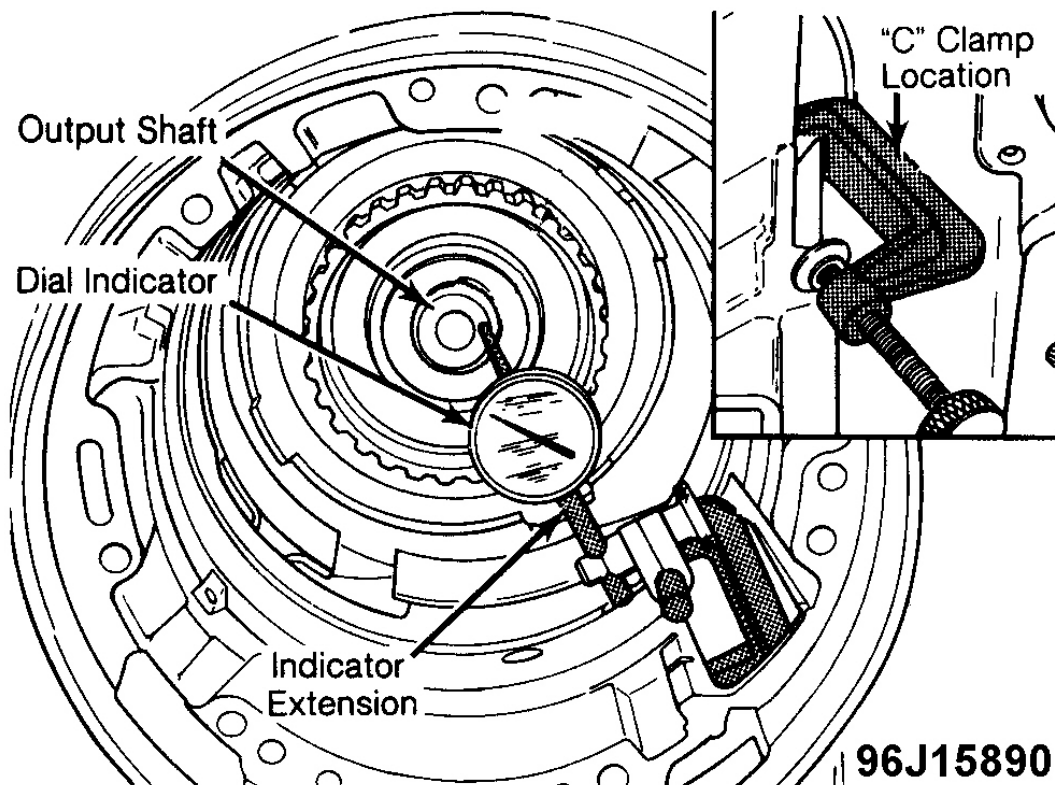

Fig. 13: Checking Rear Unit End Play
1. Loosen adjusting screw on output shaft loading fixture (installed at overdrive end play check) and push output shaft downward. Install a "C" clamp on case. See **Fig. 13** . Mount a dial indicator and extension on "C" clamp.